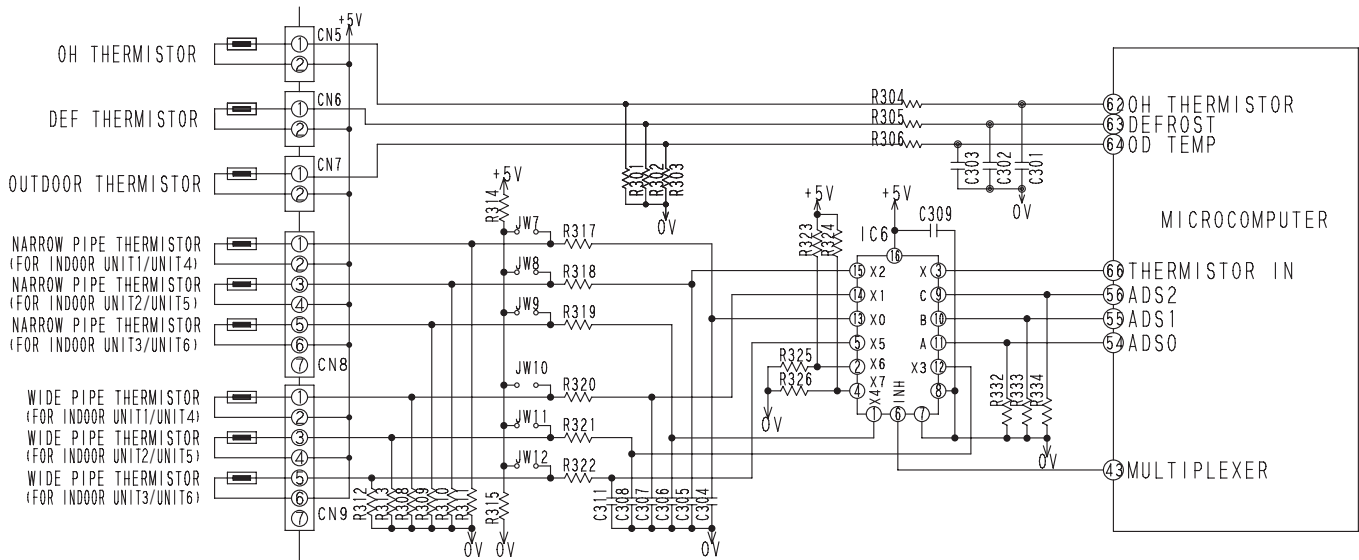

Fig. 10-1 Temperature Detection Circuit
- The circuit of the thermistors is shown as Fig. 10-1 and their roles and temperature measuring points are shown as Table 10-1.